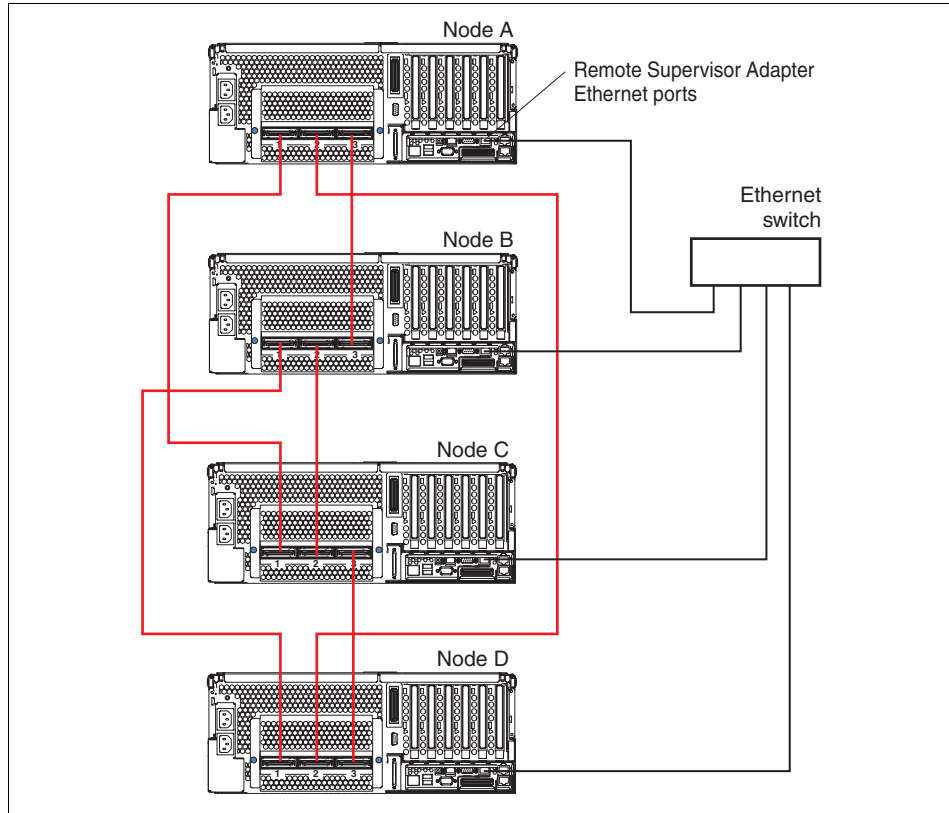

Figure 3-6 Connecting four-node configuration
1. Name the servers, as shown in Figure 3-6 on page 69. We used Nodes A–D, from top to bottom. We also named the SMP Expansion ports 1–3, from left to right.
4. Verify that the final cabling is like Figure 3-6 on page 69.